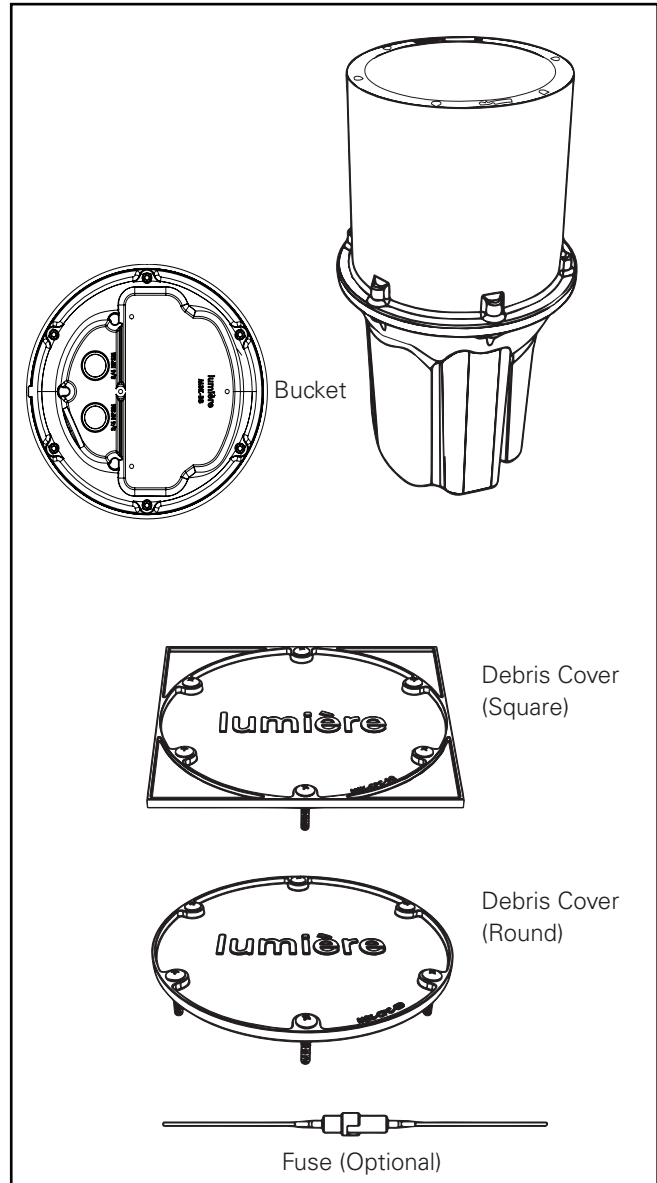

Figure 1.
2. Debris/concrete pour cover with 6 screws (either round or square). (Figure 1)